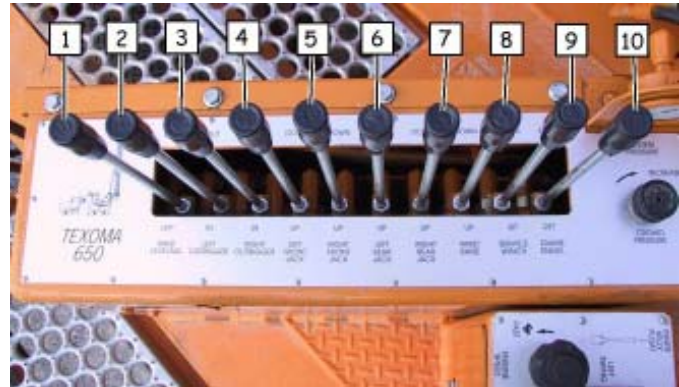

Fig. 3-5 Main Valve Bank
2. Push mast lever (item 8, fig. 3-5) to lower mast.
3. Pull service winch lever (item 9, fig. 3-5) to wind cable onto winch as mast is lowered.